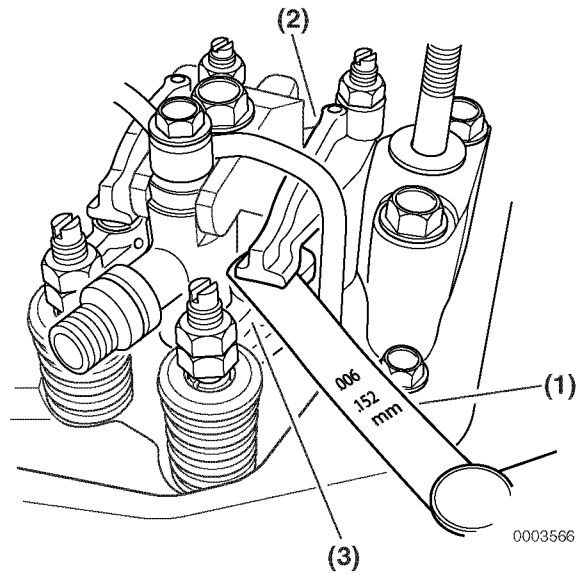

Figure 6-82
8. To adjust the actual valve clearance between the rocker arm and the valve bridge, insert a feeler gauge (**Figure 6-82, (1)**) of the correct thickness (*See Adjustment Specifications on page 6-6*) between the rocker arm (**Figure 6-82, (2)**) and valve bridge (**Figure 6-82, (3)**). Record the results and use this value as an indication of wear.